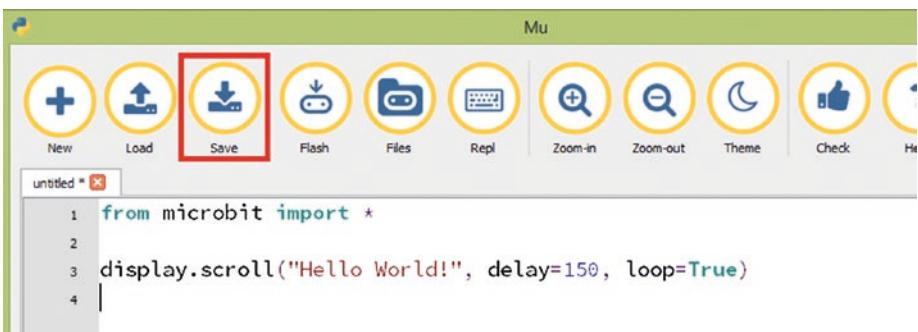

Figure 1-28. The Save button
2. Once you have done this, you can save the MicroPython source code as a .py file to the computer using the Save button in the toolbar (see Figure 1-28).